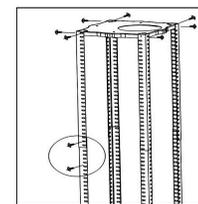

fig.9
2. Fix the angle bars to the hanging plate using the 8 x M5 screws (also see fig.9 on the right)